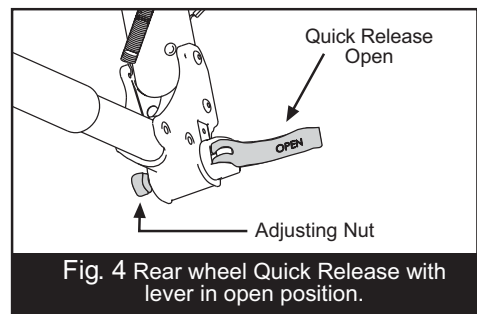
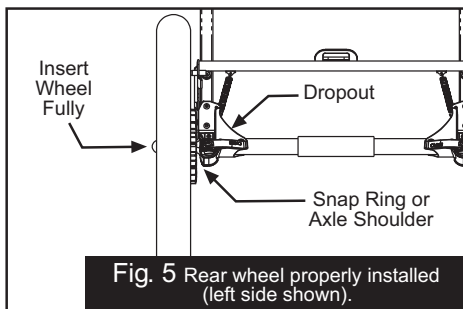
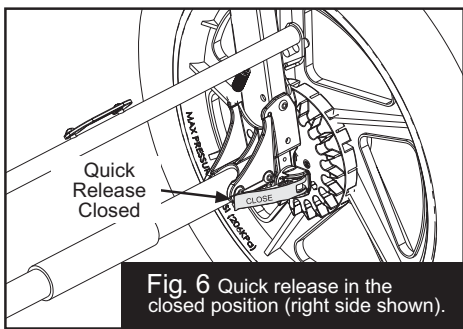

Fig. 4 Rear wheel Quick Release with lever in open position.
Fig. 5 Rear wheel properly installed (left side shown).
Fig. 6 Quick release in the closed position (right side shown).
**4. REAR WHEEL:** Place the rear wheel quick release lever in the open position, as shown in Fig. 4. Insert the rear wheel's stub axle into the hole in the rear dropout. If the axle does not slide in easily, loosen the quick
release adjusting nut (Fig. 4) by hand. Re-insert the axle fully into the rear dropout until the axle shoulder or snap ring on the axle comes in contact with the dropout (Fig. 5). Move the quick release lever to the closed position (Fig. 6). The word CLOSE should be clearly visible and the quick release lever should almost touch the dropout. When properly adjusted, it will require considerable torque (80-105 in-lbs or 9-12 Nm) to close the lever. If you do not feel this resistance (too loose or too tight), return the quick release lever back to the open position (Fig. 4), and adjust the adjusting nut (clockwise to tighten, counterclockwise to loosen). Move the quick release lever to the closed position (Fig. 6).
(see section 5). The rear wheels are removed by releasing the parking brake (See section 8), and then opening the rear wheel quick release (Fig. 4), and pulling each wheel directly to the side. The Wrist Safety Strap can be used to keep the stroller in the folded position for transport and storage. With the stroller folded, loop the end of the wrist safety strap around the handlebar and back to the cross tube and fix the Velcro surfaces together (Fig. 24).